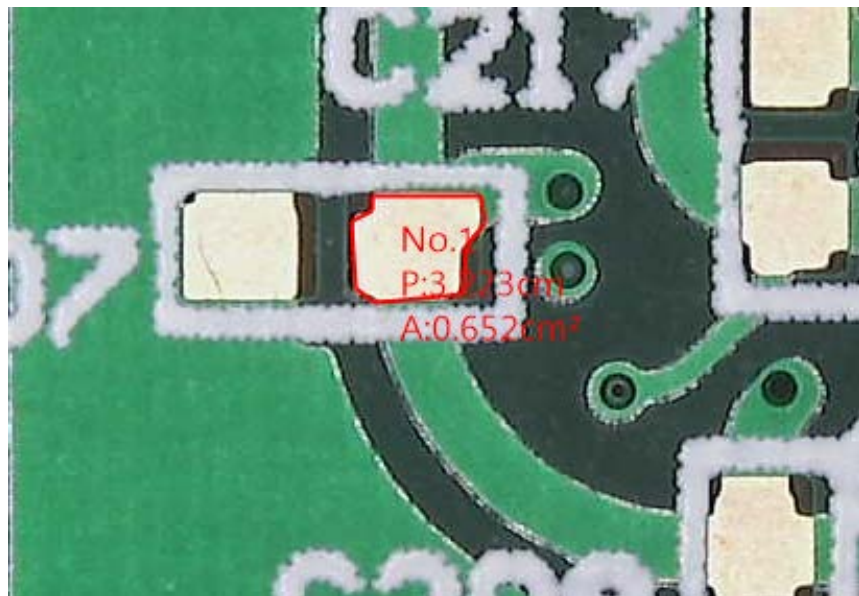

Fig 5-28 Measure Polygon
- (17) Polygon : A polygon  is a shape that is made up of many sides and has only line segment. See Fig 5-28, follow the shape and left click on each angle, right click on the last point; the last point will link to first point to make a polygon.